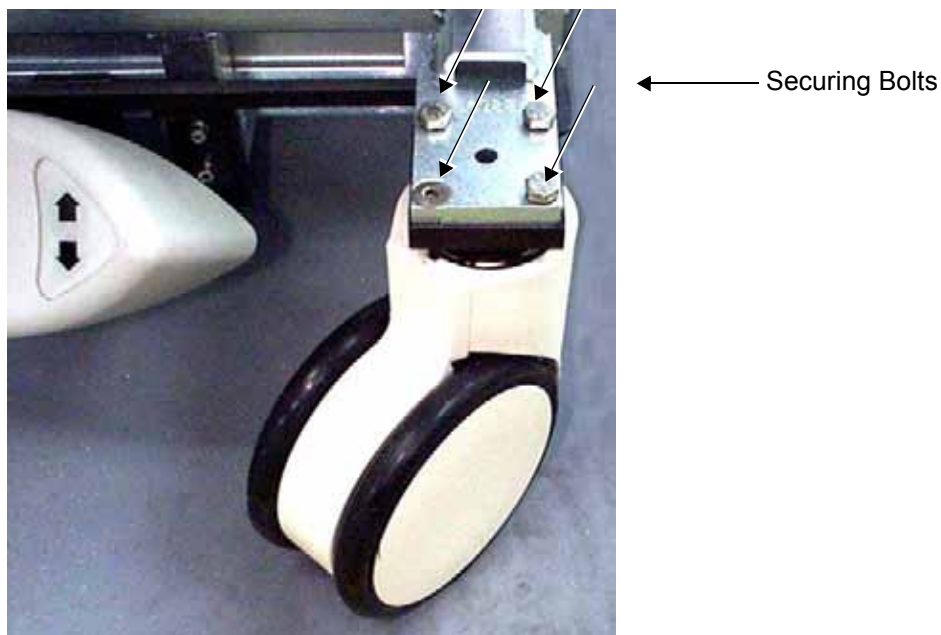

Figure 8-104 Front Wheel (Part No 2392789) Bolted to Chassis
- 6) Remove the four bolts (three wrench bolts and one Allen bolt - see Figure 8-104 below) that secure one of the front wheels to the chassis, and remove the wheel.
Install the four bolts (three wrench bolts and one Allen bolt removed in step 6 on page 8-117 refer to [Figure 8-104 on page 8-117]), making sure that the wheel is secured firmly to the chassis.
Install the four bolts (three wrench bolts and one Allen bolt removed in step 6 on page 8-117 refer to [Figure 8-104 on page 8-117]), making sure that each wheel is secured firmly to the chassis.